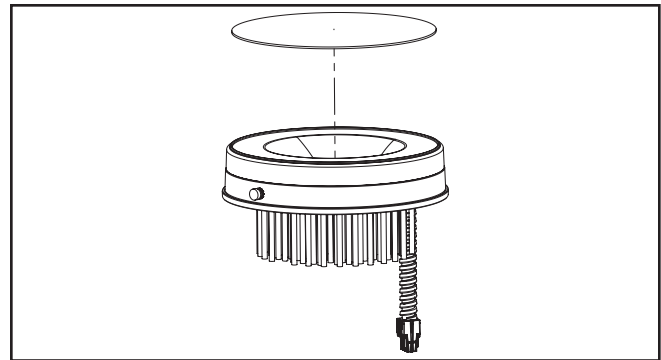

Figure 3.
2. Insert lens onto white reflector (Figure 3.).